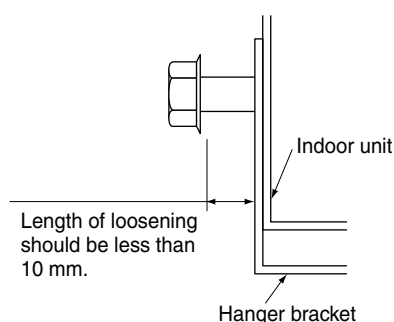

Fig. 6
- Loosen two hanger bracket setting bolts (M8) (two on each side) on each side for less than 10 mm. **(Refer to Fig. 6 and 7)**